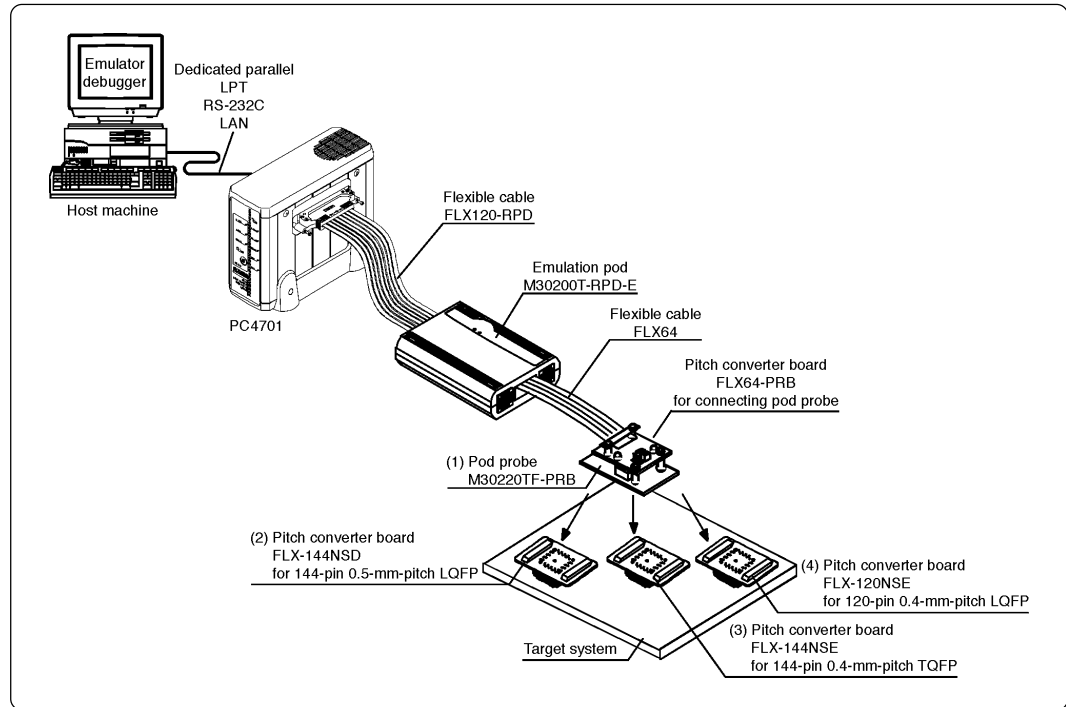

Figure 2.1 System configuration
Product (1) shown in Figure 2.1 is this product. Get (2) to (4) separately.
(1) Pod probe (M30220TF-PRB)